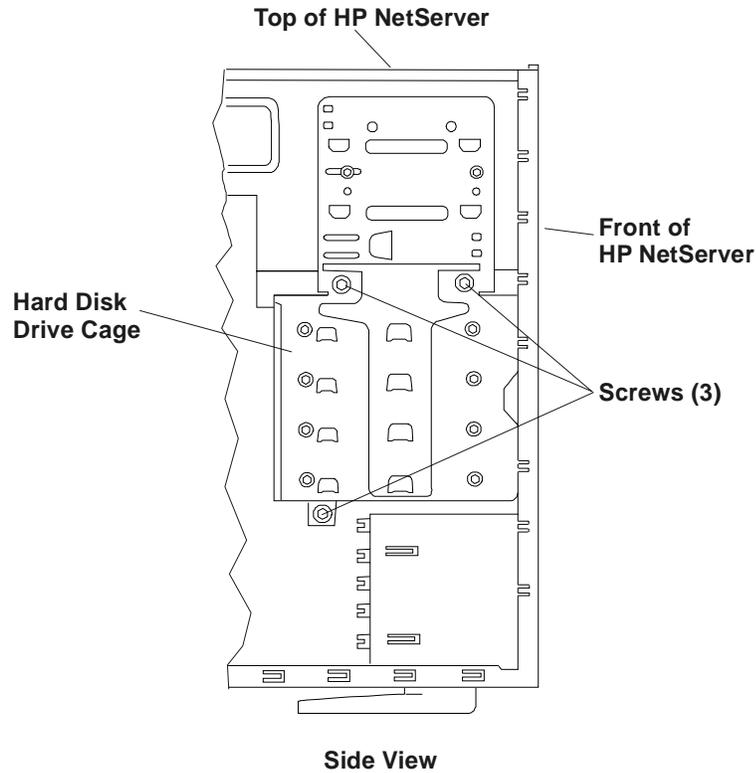

**Figure 4-1. Moving the Air Duct**
5. Unsnap the air duct and move it out of the way. See Figure 4-1.